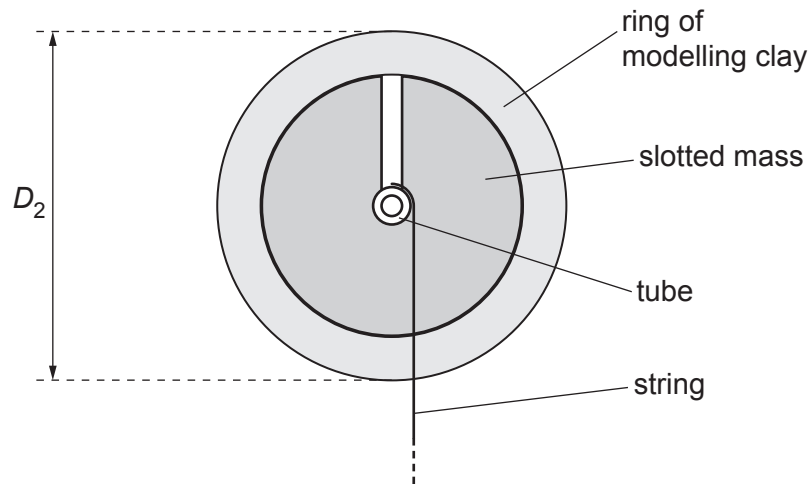

Fig. 2.4
Using **all** the modelling clay, roll the modelling clay into a long cylinder and bend it to form a ring around the outside of the slotted mass, as shown in Fig. 2.4. Ensure it is securely attached to the slotted mass.
- Measure and record the outside diameter D_2 of the ring of modelling clay, as shown in Fig. 2.4.